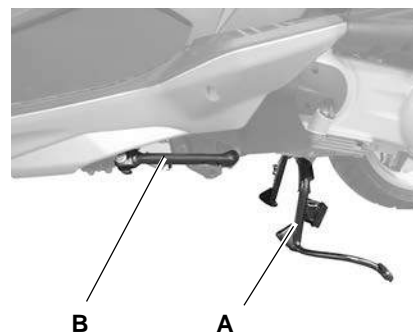

Fig. 24
- It is on the left side of the vehicle (B - Fig. 24); it is controlled by a micro switch that prevents the engine starting if the stand is not properly closed.